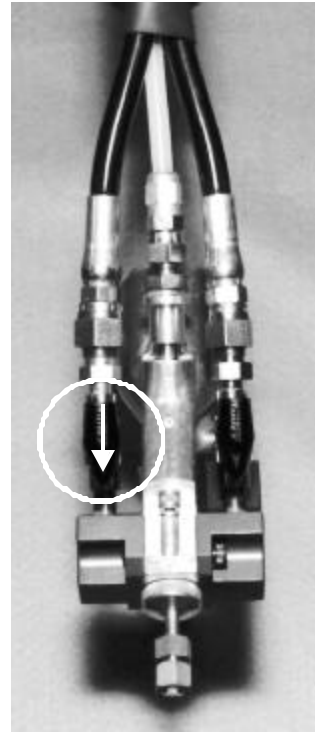

Fig. 2
3. Place separate clean containers under each individual Side Block. Open manual Material Valves (black arrow forward, see Fig. 2 & 3) on each Side Block to allow trapped air to escape the Hose and material to flow into the containers until all air is purged from the material system. (see Fig. 1)
(see Fig. 2 & 3)